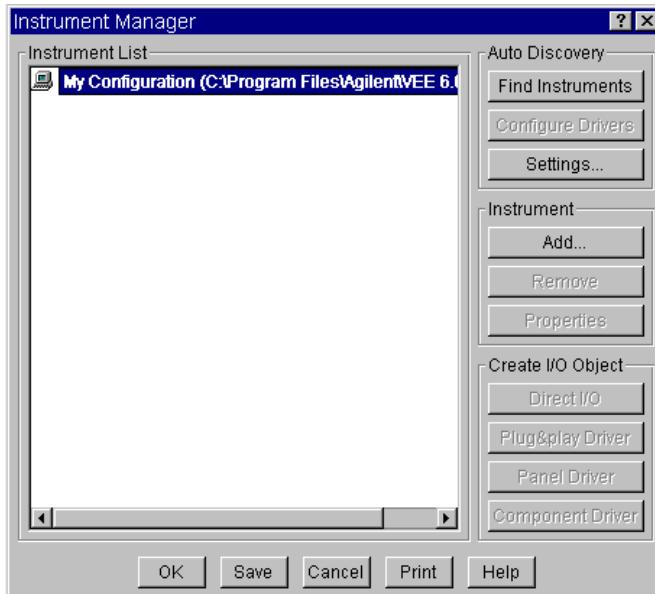

Figure 3-6. The Instrument Manager Box
1. Select I/O ⇒ Instrument Manager.... Move the dialog box to the upper-left work area by clicking and dragging its title bar, as shown in Figure 3-6.